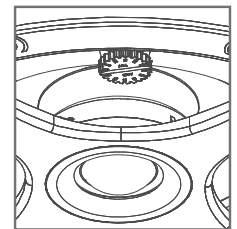

FIGURE 20: TRANSFORMER TAP SELECTION
16. Determine the proper wattage setting for each speaker in the installation and set each speaker's transformer tap selector on the front of the speaker accordingly (see figure 20).